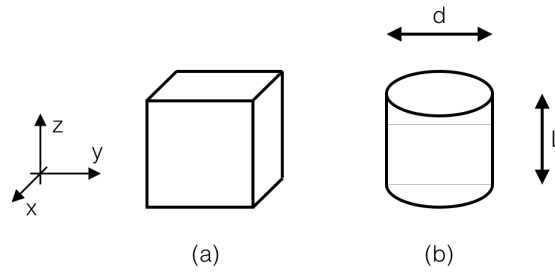

Figure 1: Definition of the geometrical entities.
Prove this expression by considering a parallelepiped with sides  $x$ ,  $y$  and  $z$  (fig. 1, a). Hint: you will have to cross-out negligible terms.
- b) Similarly to part (a), show that a cylinder (fig. 1, b) that is strained in both the radial and the axial direction will experience a volume change described by: